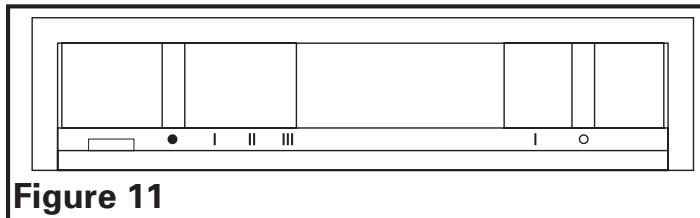

Figure 11
Your Range Hood is equipped with two sliding switches with one controlling the lighting and the other controlling the exhaust fan. The light control has two positions, ON (I) and OFF (O). The fan is a four position control, HIGH (III), MEDIUM (II), LOW (I), and OFF (•) (**Figure 11**).